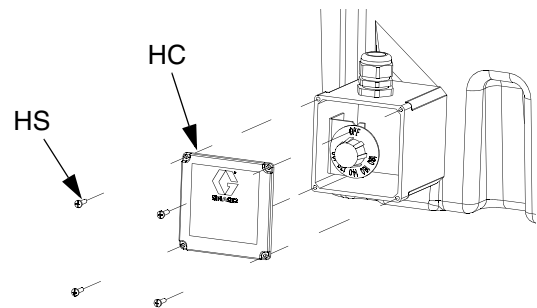

FIG. 13: Immersion Heater Cover
- Install immersion heater cover (HC) with screws (HS). See FIG. 13.
- Open junction box door and remove plug for appropriate heater wire. Install cord grip of bushing (302). Route power cable (303) up through cord grip.